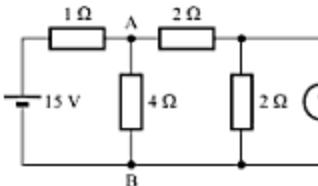

Fig. 4.38
- Find the current through  $4\text{-}\Omega$  resistor in the circuit shown in Fig. 4.38, using superposition theorem.